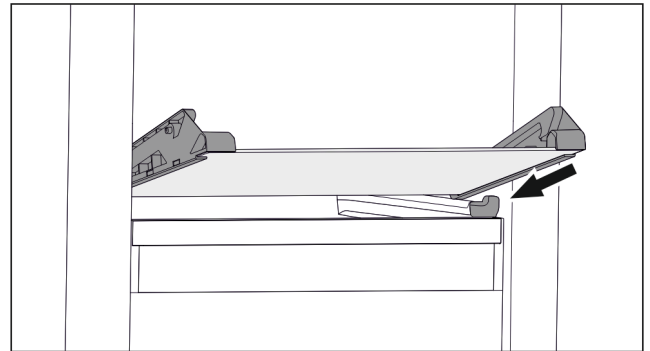

Fig. 132 Tilting drawer glass shelf
- ▶ Position glass shelf at an angle behind the stoppers. (see Fig. 132)